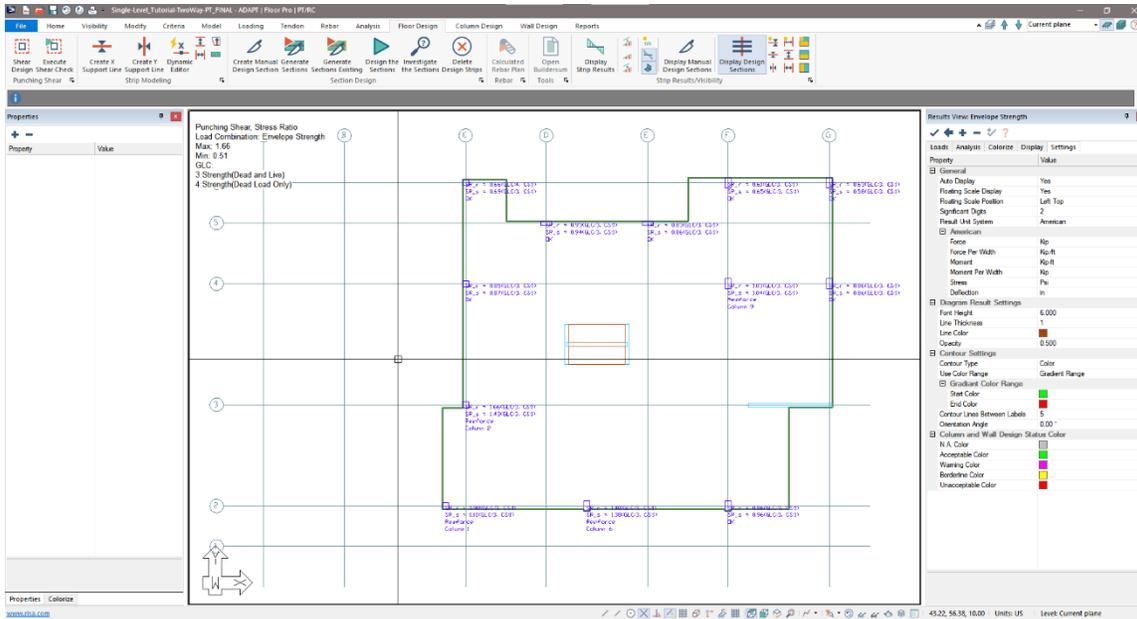

Figure 8-76
- The users screen should look as shown in **FIGURE 8-76**.